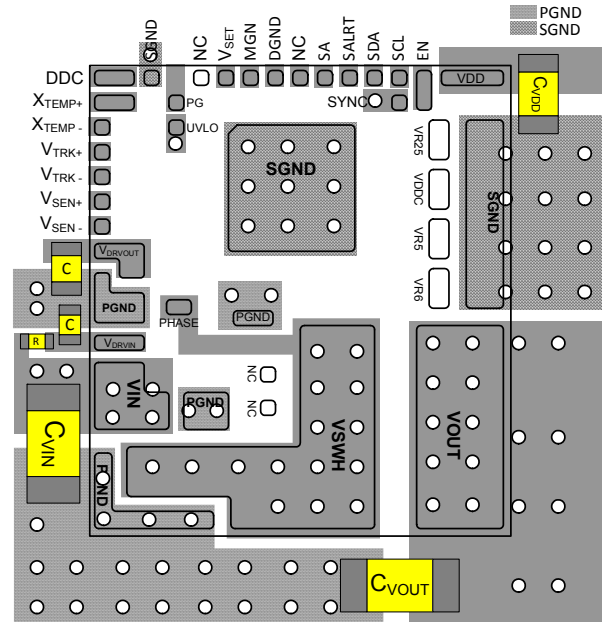

FIGURE 30. RECOMMENDED LAYOUT - TOP PCB LAYER
- For  $VDD > 6V$ , the recommended PCB layout is shown in Figure 30. Leave V25, VDDC, VR5, and VR6 as no connect.